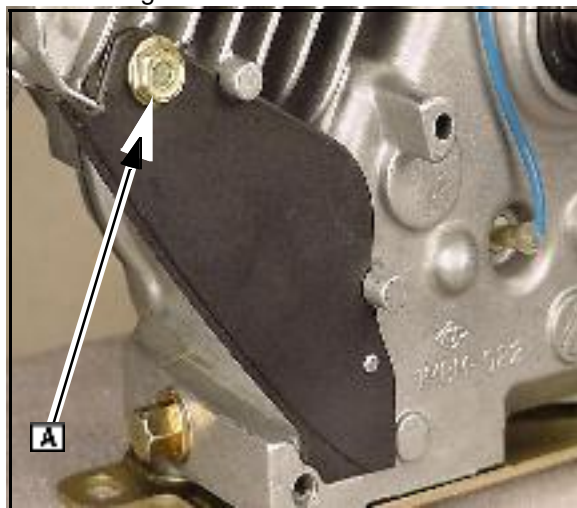

Fig. 2
2. Check to make sure the small steel bushing ([A] Fig. 2) is installed in the intake side baffle. Install baffle as shown in Fig. 2.